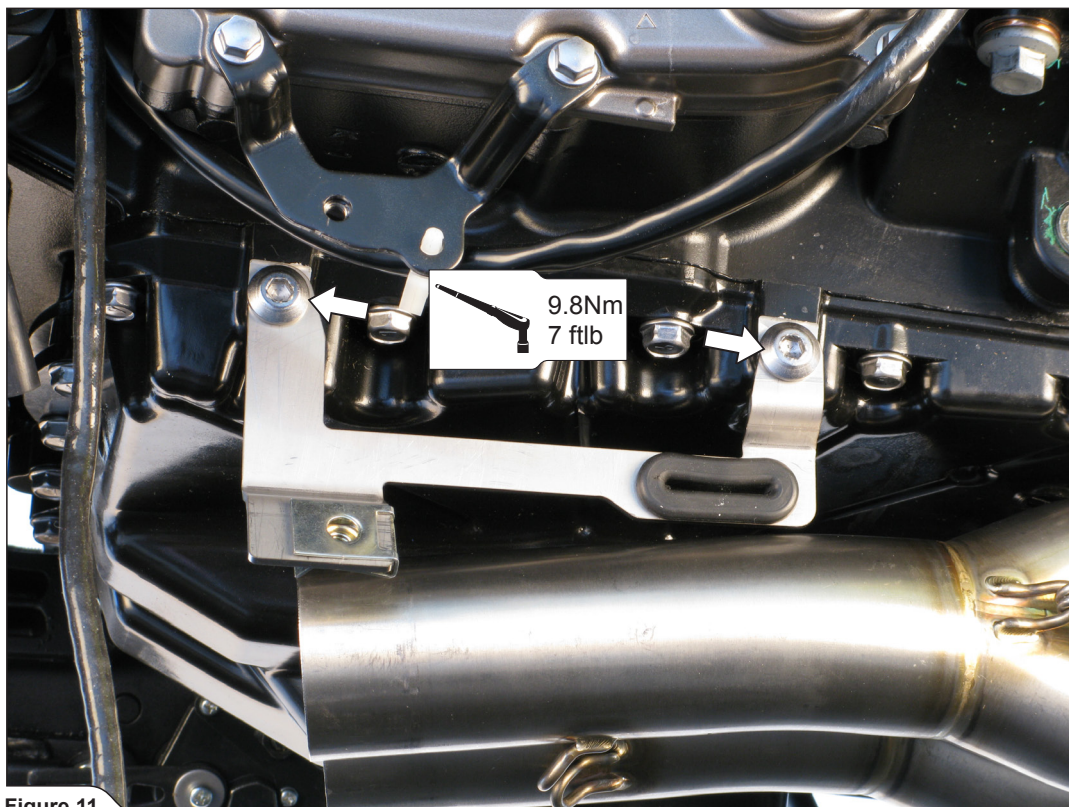

Figure 11
4. **For Z1000 model only:** install the bracket onto the engine, using stock bolts (**Figure 11**).